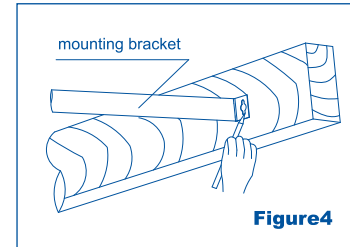

Figure4
a) Position housing between joists and extend mounting brackets. Position brackets so that bottom edge of housing will be flush with suspended ceiling. Mark the top of keyhole on all four mounting brackets (Figure4).